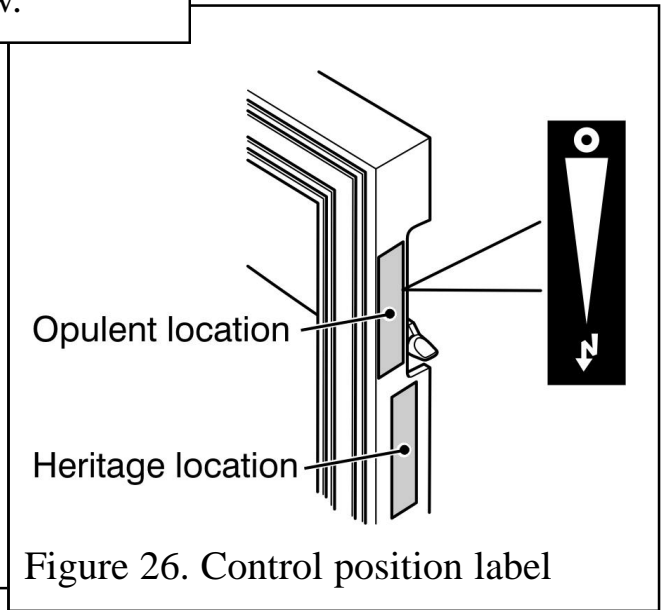

Figure 26. Control position label
4. Supplied with the fire is a self adhesive control position label. Peel the backing from the label and place as in figure 26.